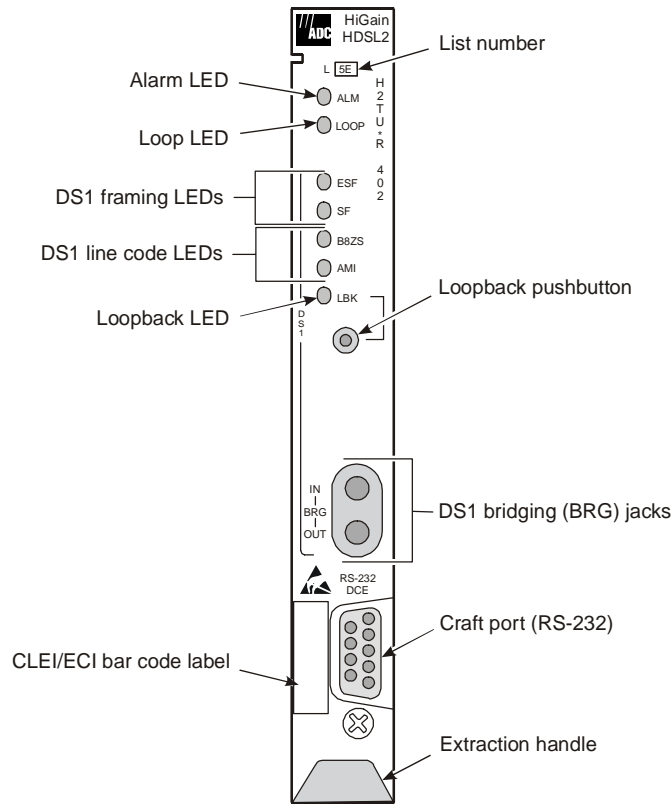

Figure 2. H2TU-R-402 List 5E Front Panel
Figure 2 shows the H2TU-R-402 List 5E front panel. Table 1 on page 5 describes the front-panel components. For pinout diagrams of the H2TU-R card-edge connector and craft port, refer to “Appendix A - Specifications” on page 34.
- 1 Connect a standard 9-pin serial cable to the RS-232 craft port (Figure 2 on page 4) on the H2TU-R-402 List 5E front panel.